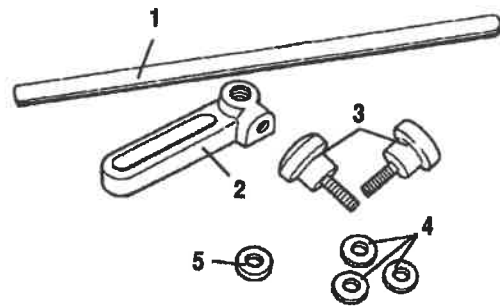

Fig. A-30
1. Put a flat washer (4) on the shaft of a knob (3). Screw the knob (3) a few turns into the hole located in the side of the body's (2) rod hole, as in Fig. A-30.